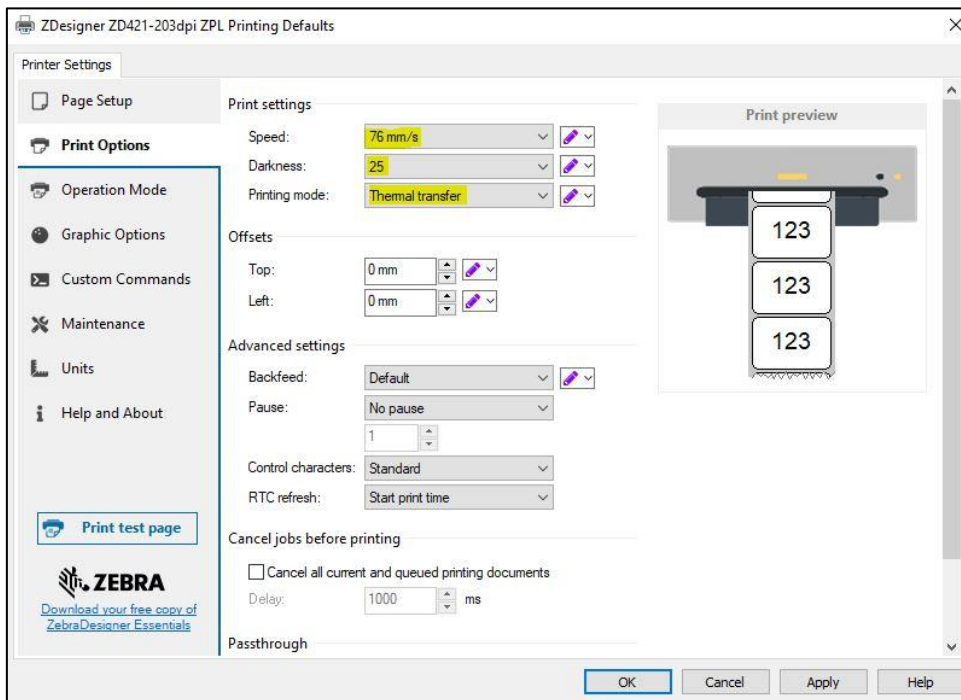

Figure 6: Print options
- Figure 6: Print options4
Once you finish the **Page Setup**, select **Print Options** and adjust the speed, temperature and printing mode (see Figure 6).